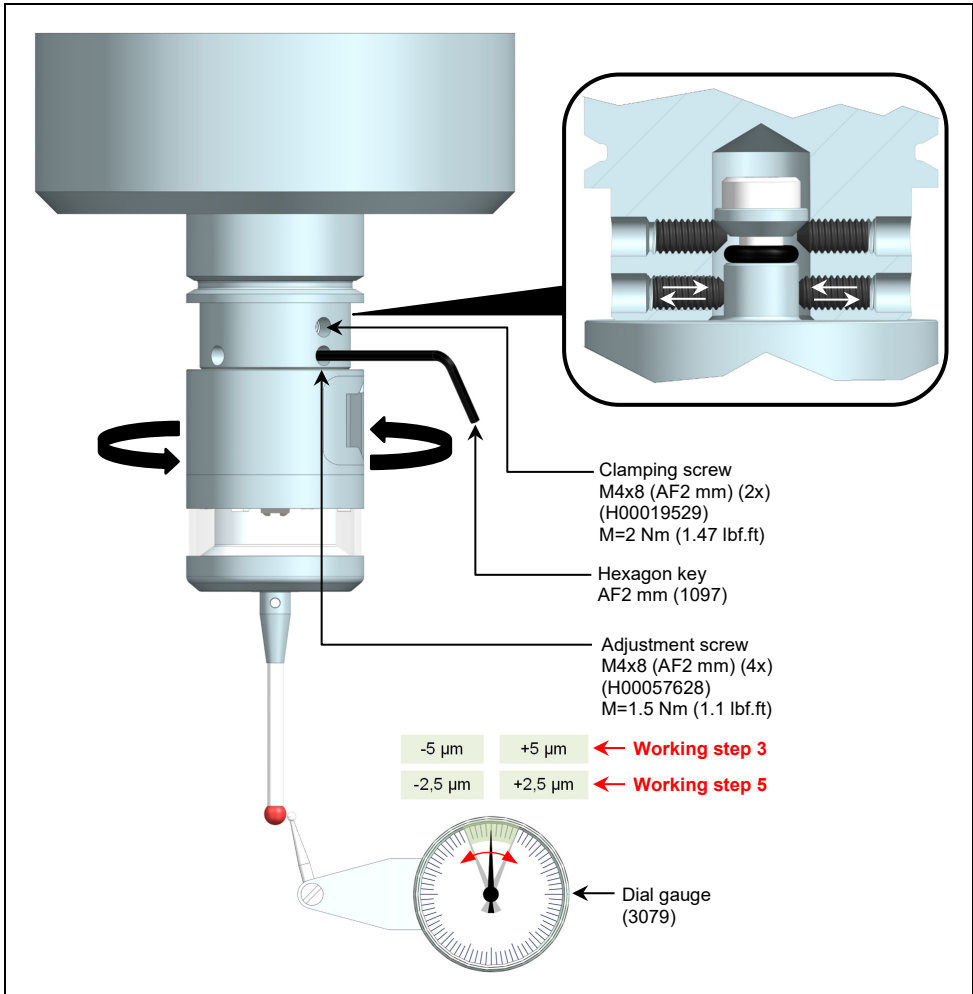

Fig. 9 Stylus runout adjustment (T)
4. Tighten clamping screws (2x) to the torque specified in (Fig. 9).
5. Adjust the touch probe with the adjustment screws (4x) to less than 5 μm and tighten them to the torque specified in (Fig. 9).